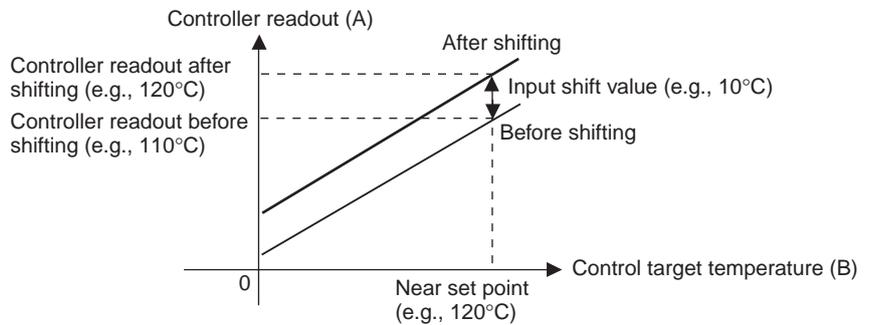

Figure 2 Illustration of 1-Point Shift
2. Check the control target temperature (B) and the Controller readout (A). Subtract the Controller readout temperature (A) from the control target temperature (B), and set *i nsl* and *i nsh* to the result as the input shift value. The shift is illustrated in *Figure 2*.
3. After setting the input shift values, check the Controller readout (A) and the control target temperature (B). If they are almost the same, this completes shifting the temperature input.